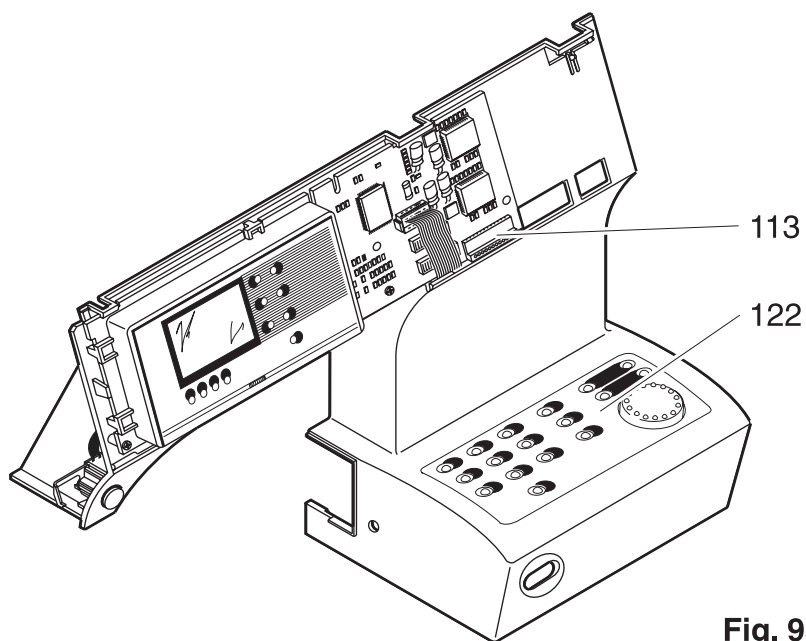

Fig. 95
- Attach the circuit board complete with key pair panel 122 and the keys onto the front housing panel (fig. 95).
- Mount connection plug 113 on the circuit board on the front housing panel (fig. 95).